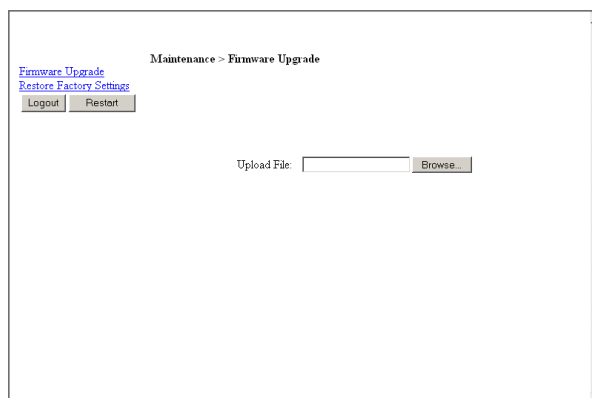

Figure 47 – Safe Mode Menu
1. In the Safe Mode menu (see Figure 47), click **Restore Factory Settings**.
1. In the Safe Mode menu (see Figure 47), click **Firmware Upgrade**.